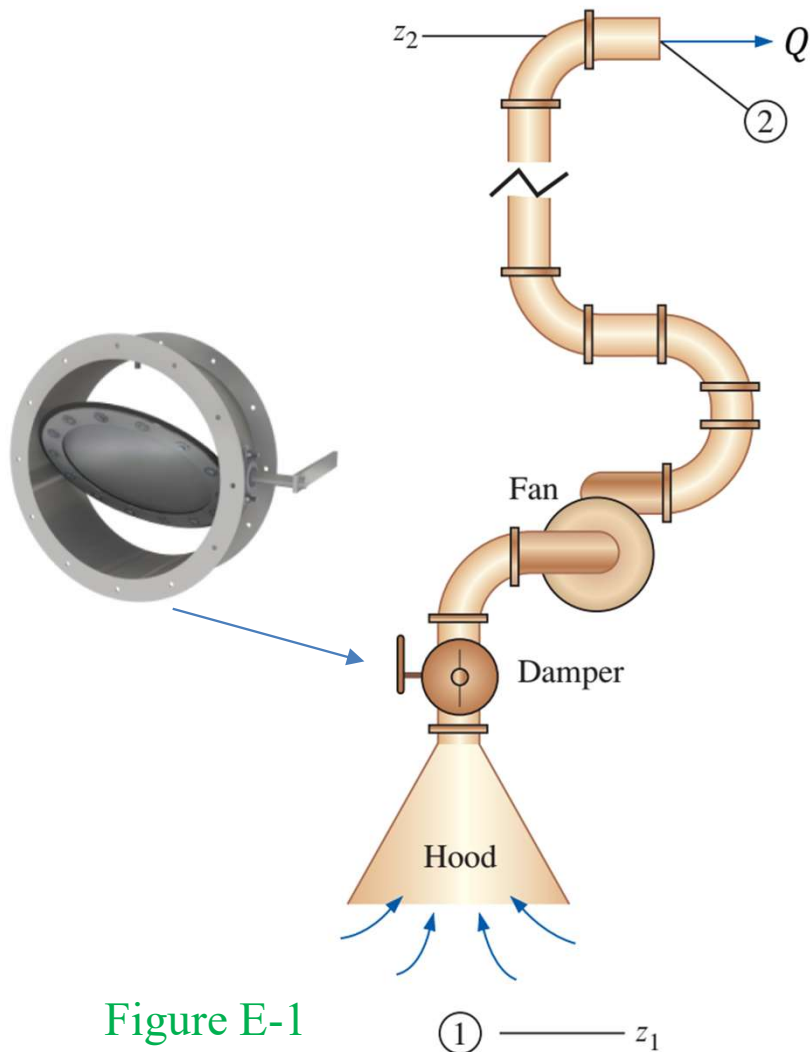

Figure E-1
A local ventilation system (hood and exhaust duct) is used to remove air and contaminants produced by a dry-cleaning operation (see Figure E-1). The duct is round and is constructed of galvanized steel with longitudinal seams and with joints every 30 in (0.76 m). The inner diameter (ID) of the duct is $D = 9.06$ in (0.230 m), and its total length is $L = 44.0$ ft (13.4 m). There are five CD3-9 elbows along the duct. The equivalent roughness height of this duct is 0.15 mm, and each elbow has a minor (local) loss coefficient of $K_L = C_0 = 0.21$. Note the notation C_0 for minor loss coefficient, commonly used in the ventilation industry (ASHRAE, 2001). To ensure adequate ventilation, the minimum required volume flow rate through the duct is $Q = 600$ cfm (cubic feet per minute), or $0.283 \text{ m}^3/\text{s}$ at 25°C . Literature from the hood manufacturer lists the hood entry loss coefficient as 1.3 based on duct velocity. When the damper is fully open, its loss coefficient is 1.8. A centrifugal fan with 9.0-in inlet and outlet diameters is available. If the flow is turbulent, assume that $\alpha = 1.05$. Its performance data are shown in Table E–1, as listed by the manufacturer. Predict the operating point of this local ventilation system, and draw a plot of required and available fan pressure rise as functions of volume flow rate. Is the chosen fan adequate?